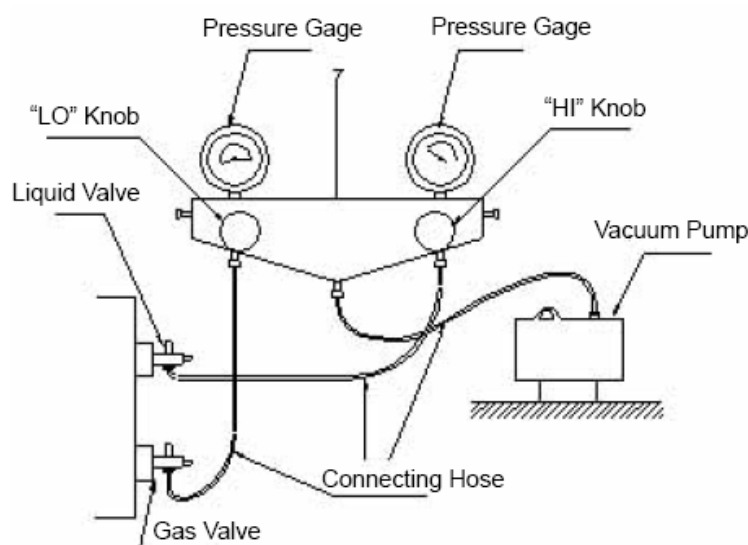

Figure 3-1-5
- ◆ Connect the tube of the vacuum watch with the vacuum pump, having the low-pressure end linking to the inlet for refrigerant. (As shown in Figure 3-1-5)